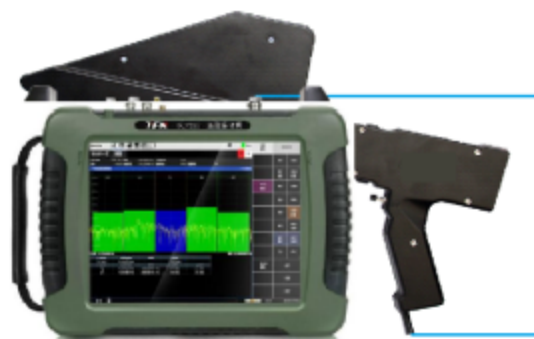

Figure 9.10 Connection diagram of handheld DF antenna and RMT series spectrometer
- Step 1. Connect the handheld DF antenna to the RMT series spectrometer RF input port and the USB port, as shown in Figure 9.10: